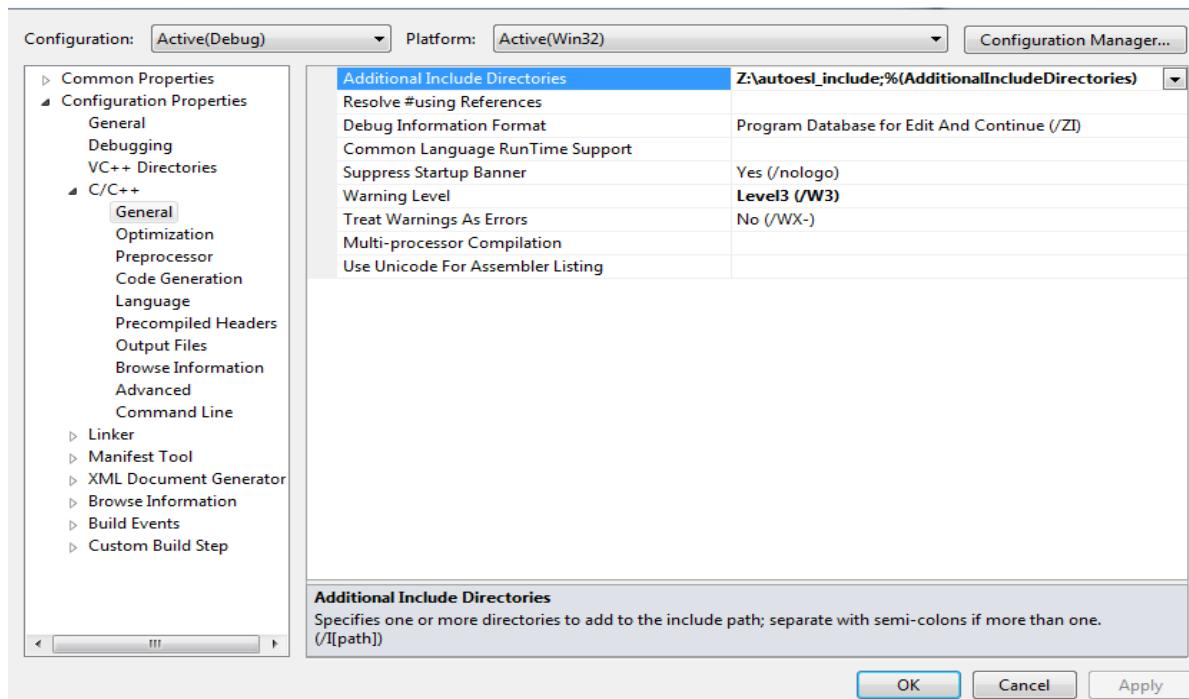

Figure 1-32: Setting High-Level Synthesis Include Path in Visual Studio
5. Click Additional Include Directories and add the path as show in Figure 1-32.